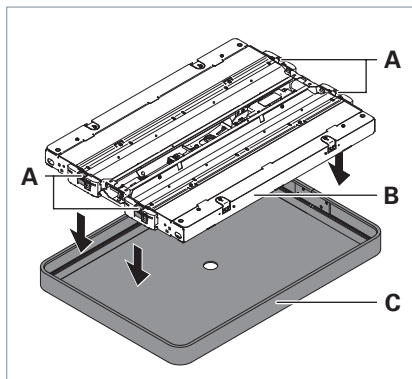

Fig. 7: Mounting the cover frame.
- Place the light chassis **B** from above into the cover frame **C** until the cover frame has locked into place in all four detent hooks **A**, see Fig. 7.